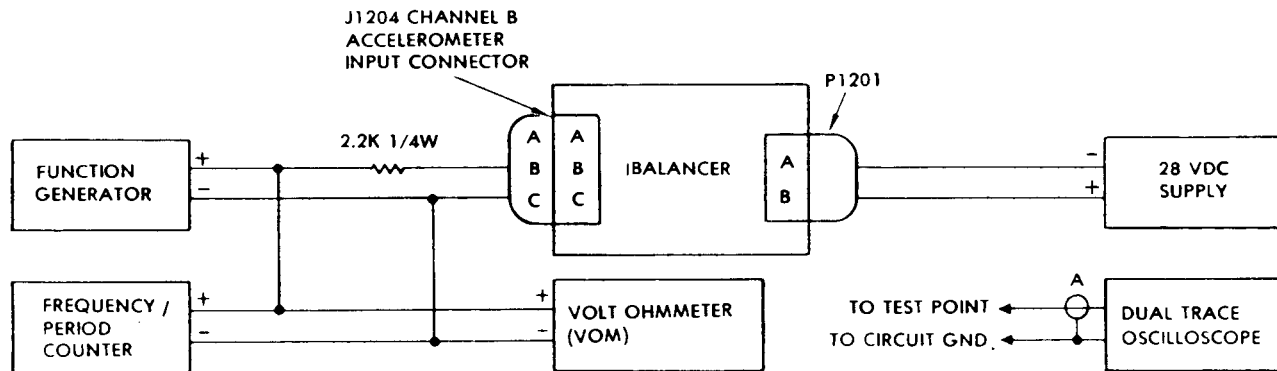

Figure 4-6. Balancer Test Setup
(1) Connect +28 vdc power supply only to Balancer as shown in Figure 4-6.
(2) Set Balancer RPM Dial to 100.
(3) Use VOM to measure voltages at test point in Table 4-2.
(1) Connect Balancer and test equipment as shown in Figure 4-6.
(2) Set Balancer FUNCTION switch to B, R.P.M. RANGE switch to X10, and R.P.M. TUNE dial to 999.
(3) Connect oscilloscope to function generator output and set up function generator for a sine wave output of 166 Hz at 80 mV rms.
(4) Press and hold VERIFY TUNE switch and adjust frequency of function generator for a peak indication on IPS meter. Verify that frequency /period counter indicates  $166.6 \pm 3.3$  Hz. Release VERIFY TUNE switch.
(5) Adjust output of function generator (do not change frequency) for a full scale indication on IPS meter. Verify that VOM indicates  $115 \text{ mV} \pm 5\%$ .